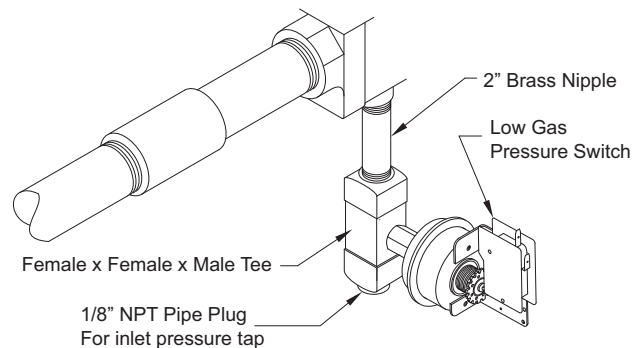

Fig. 26 – 80% Low Gas Pressure Switch
2. Remove Low Gas Pressure Switch, brass street 90° elbow and 2-in. brass nipple from the gas valve inlet pressure tap. (See Fig. 26.)